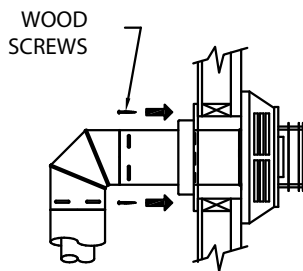

Figure 9
**Step 7.** Slide the Wall Thimble Cover up to the wall surface and attach to the wall with screws provided (**Fig. 9**). Apply optional decorative brass trim to Wall Thimble Cover, if desired.